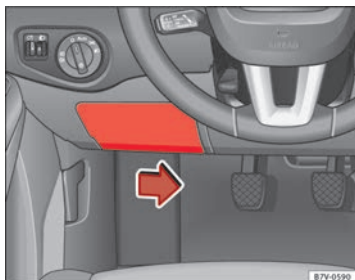

Fig. 201 On the driver-side dash panel: fuse box cover
- To remove the cover, move the activation lever in the lower part to the right ⇒ Fig. 201.